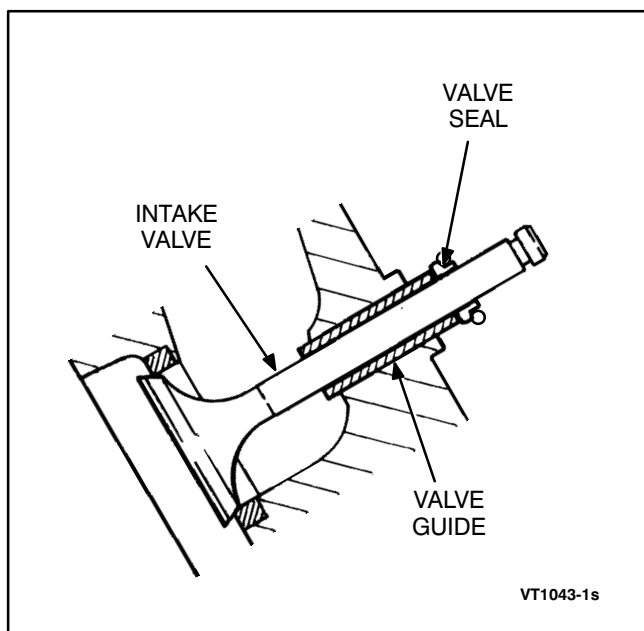

FIGURE 10-12. VALVE SEAL INSTALLATION
3. Press the valve seal into the valve guide by hand until the shoulder of the seal rests against the cylinder head (Figure 10-12).